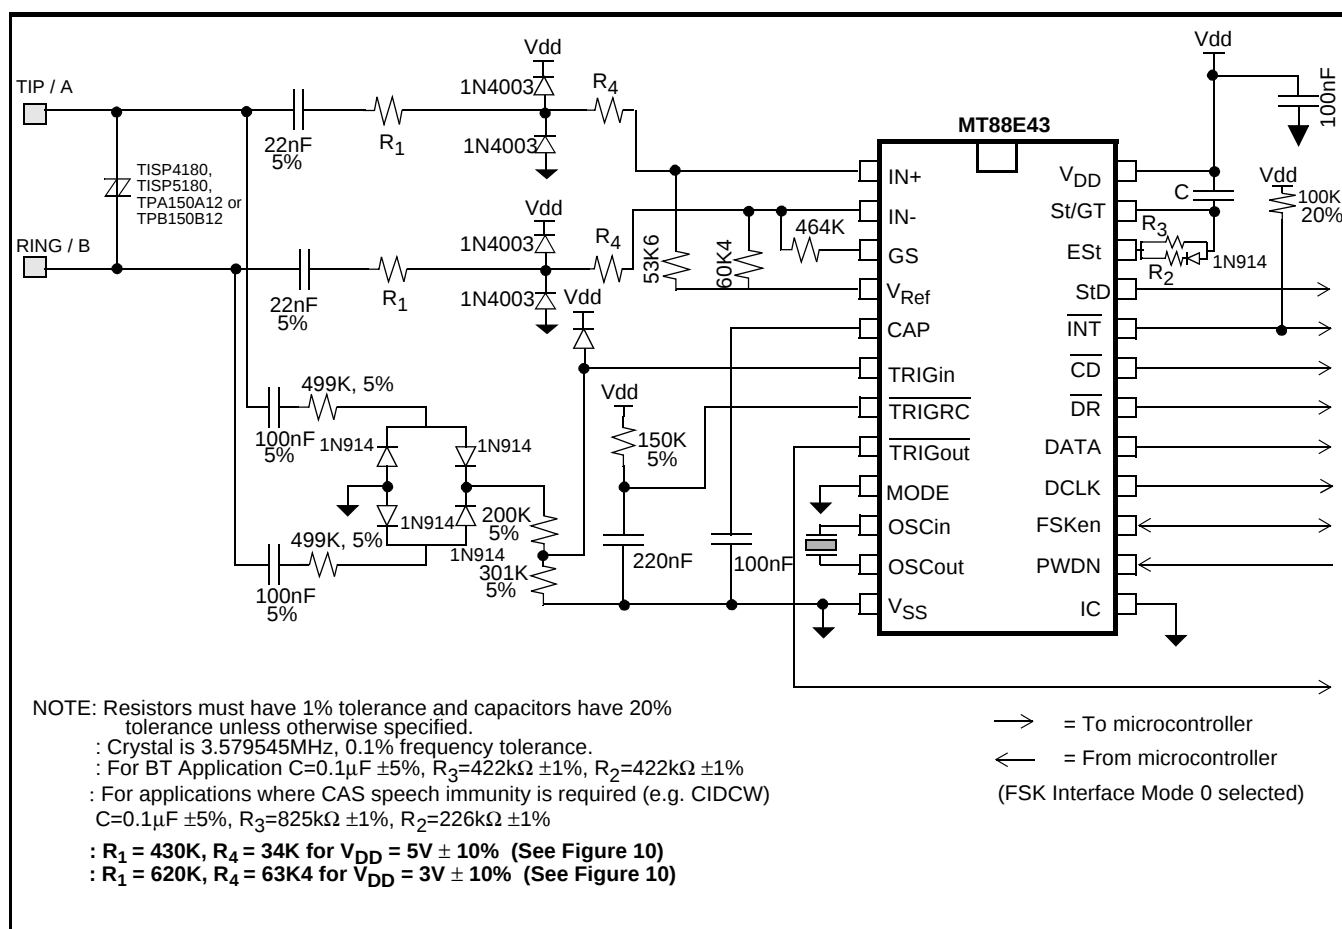
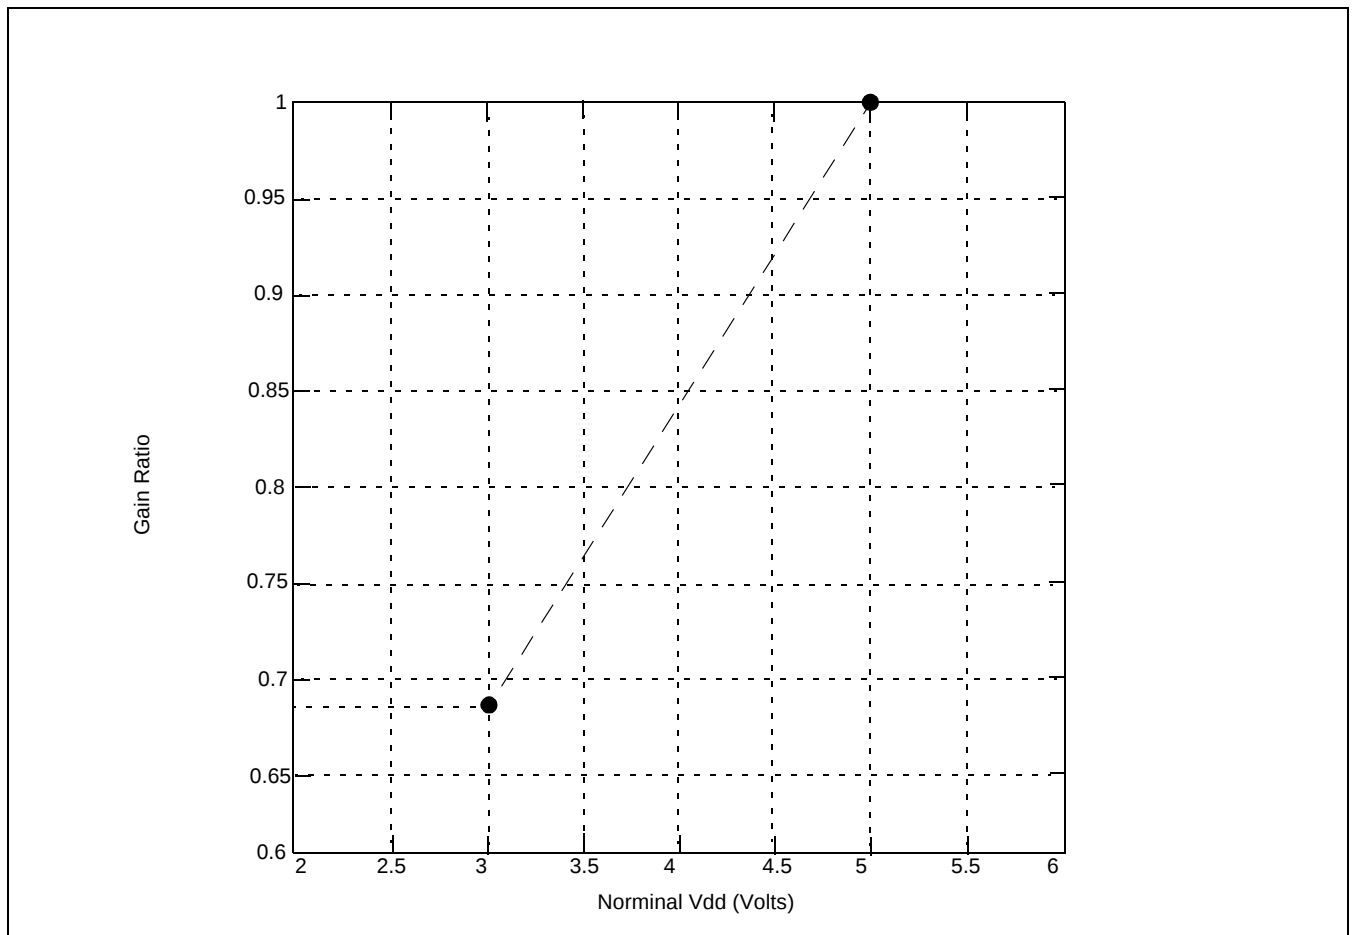

Figure 9 - Application Circuit
Figure 10: Gain Ratio as a function of Nominal Vdd
Figures 9 and 11 ($R_2 = R_3 = 422K$, $C = 0.1\mu F$) will meet the BT timing requirements.
The circuits shown in Figures 9 and 11 are application circuits for the MT88E43. As supply voltage (V_{DD}) is decreased, the threshold of the device's tone and FSK detectors will be reduced. Therefore, to meet the BT or Bellcore tone reject level requirements the gain of the internal opamp should be reduced according to the graph in Figure 10. For example when $V_{DD}=5V$ (+/- 10%), R_1 should equal 430k Ω and R_4 should equal 34k Ω ; and if $V_{DD}=3V$ (+/- 10%) R_1 should equal 620k Ω and R_4 should equal 63.4k Ω . Resistors R_1 and R_4 are shown in Figures 9 and 11.
The circuit shown in Figure 9 illustrates the use of the MT88E43 in a proprietary system that doesn't need to meet FCC, DOC, and UL approvals. It should be noted that if glitches on the tip/ring interface are of sufficient amplitude, the circuit will falsely detect these signals as ringing or line reversal.
Note: In the application circuits shown in Figures 9 and 11, the Gain Ratio of MT88E43 opamp is
- With gain setting as shown in Figure 10. Production tested at 3V $\pm 10\%$, 5V $\pm 10\%$.